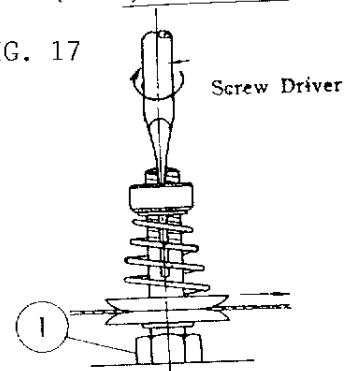

Fig. 17
16. REGLAGE DU BLOC DE RELACHEMENT DE TENSION No 2 - FIG. 17
LE PROCEDE STANDARD, COMME INDIQUE FIG. 17, CONSISTE A TOURNER LA POULIE DANS LA DIRECTION DE LA FLECHE POUR TIRER LE FIL ET LE DISQUE DE TENSION No 2 EN S'ECARTANT PERMATTRA AU FIL DE GLISSER RAPIDEMENT.
INSERER UN TOURNE VIS DANS L'AXE DE TENSION No 2 COMME INDIQUE FIG. 17, DESSERER L'ECROU (1) ET TOURNER L'AXE DANS LA DIRECTION DE LA FLECHE, LORSQUE L'ECROU EST SERRE, LA DISTANCE ENTRE LA LISIERE DU GUIDE BARRE SUPERIEUR ET LA PARTIE SUPERIEURE DE LA BARRE A AIGUILLE EST REDUITE ET ELLE EST AUGMENTEE SI L'AXE EST TOURNE DANS LA DIRECTION OPPOSEE.